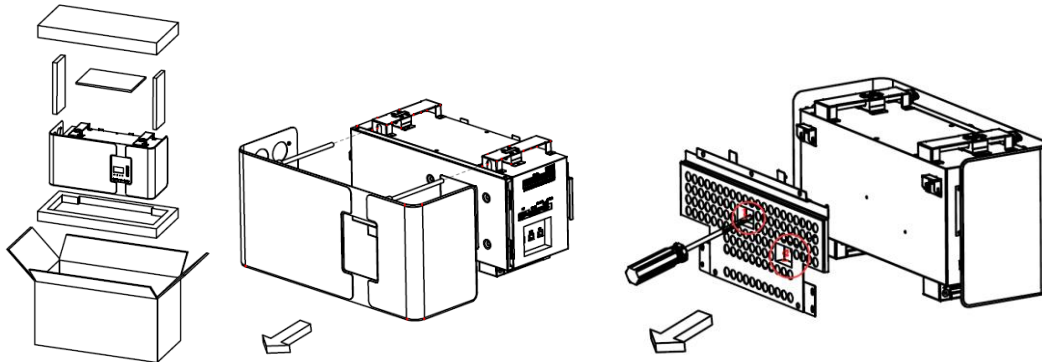

Figure 15 Unpacking the High-voltage Control Box
Step 7: Take the HV50056 out of the packaging box. Pull out the top two guide rods and remove the front panel. Remove the rear bracket from the HV50056, as shown in Figure 15.